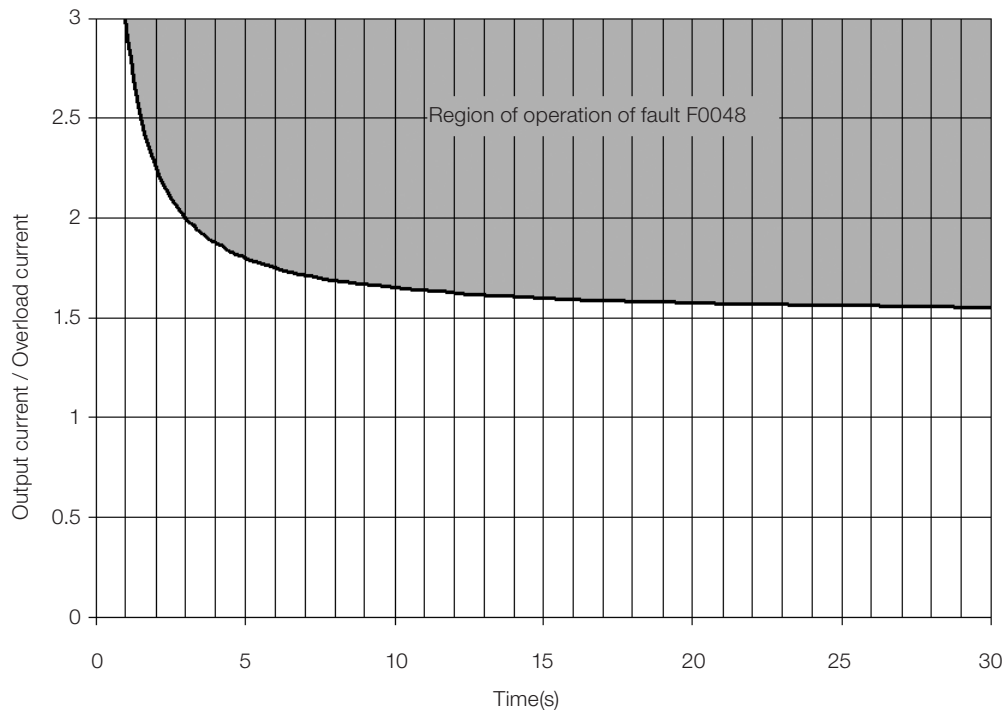

Figure 18.2: Actuation of the overload of the IGBTs (Heavy Duty - HD)
The CFW500 IGBTs overload protection uses the same motor protection format. However, the design was changed so that fault F0048 occurs in three seconds for 200 % of overload for heavy duty (HD) (P0298 = 1), in relation to the inverter rated current (P0295), as shown in Figure 18.2 on page 18-4. On the other hand, the IGBTs overload (F0048) has no actuation for levels below 150 % of the inverter rated current (P0295).